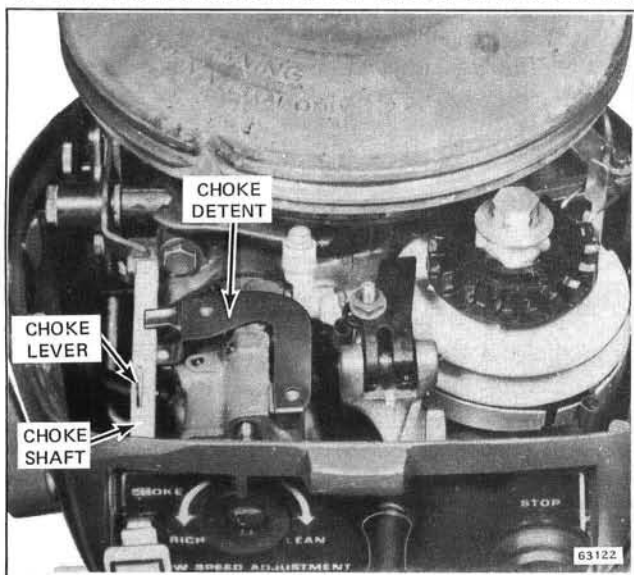

Figure 3-7. Choke Knob and Detent
c. Remove choke knob detent. See Figure 3-7. Disengage choke shaft from choke lever, and remove choke knob and shaft from lower motor cover.
f. Install choke knob and shaft and choke knob detent. See Figure 3-7.